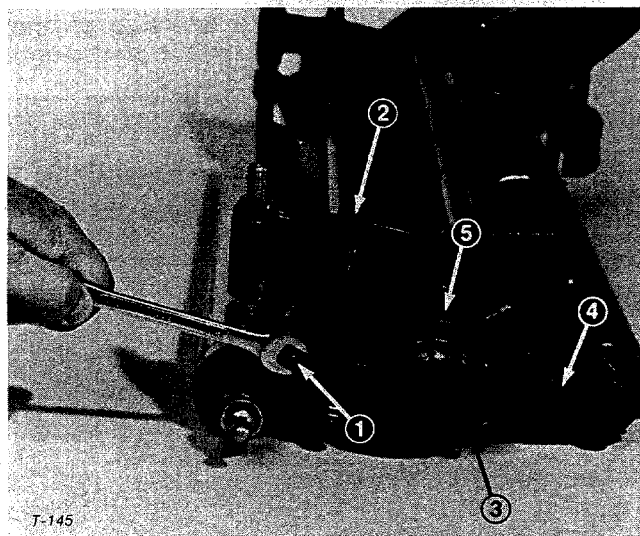

Figure 47
2. Remove locknut, reel adjustment screw, allen head set screw and capscrew from left reel bracket and remove reel bracket from left side plate (Fig. 47).